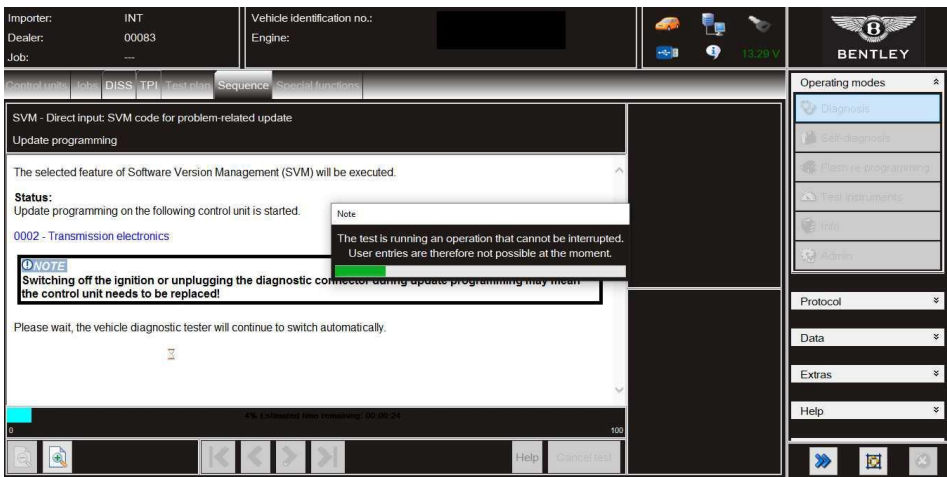

Figure 3
- The software of *02 – Transmission Control Module (Figure 3)* will now be updated